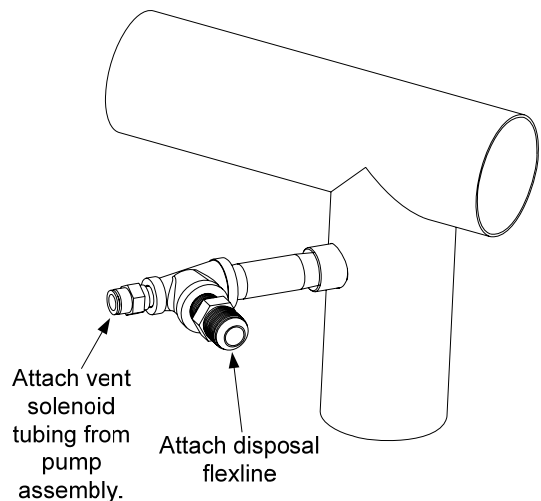

Figure 3: Attach new fitting assembly (108-4133) to drain dump.
8. Attach the new fitting assembly (108-4133) to the drain dump as shown in Figure 3.
14. Attach the 17 ½" disposal flexline from the front of the assembly to the new fitting installed on the drain dump assembly in step 8. See Figures 3 and 7.
15. Attach the vent solenoid tube disconnected in step 6 to the fitting on the drain dump assembly. See Figure 3.